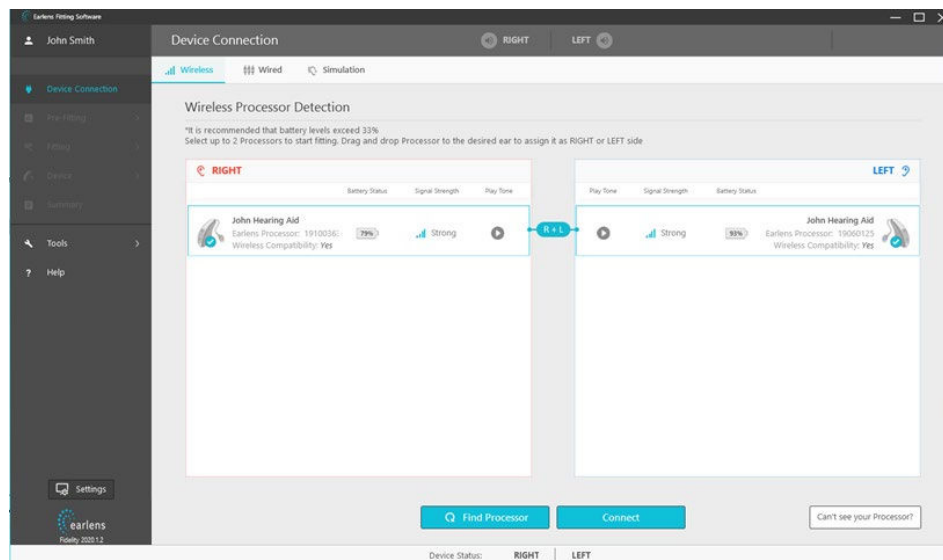

Figure 21: Device Connection screen: wireless
- i. Drag and drop the listed Processor(s) to the desired ear. Select both Processors to link ears. You can confirm serial number assignment to the appropriate ear(s) by playing tones if desired (Figure 21).
- j. Click “Connect” (Figure 21).